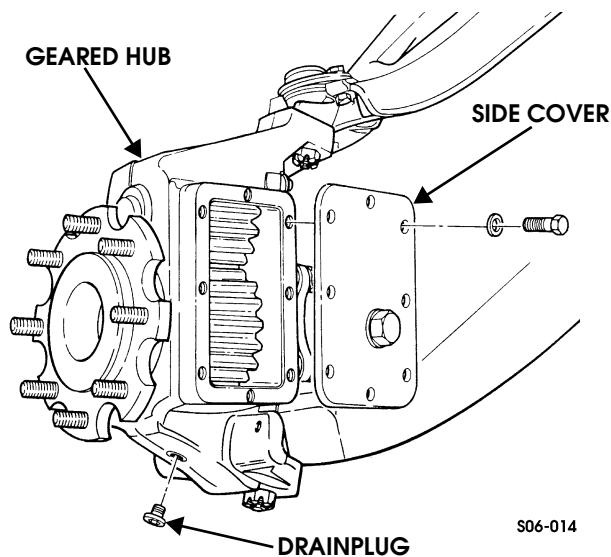

Figure 9-19: Geared Hub Side Cover Replacement
2. Remove drainplug from geared hub and drain geared hub (Figure 9-19).